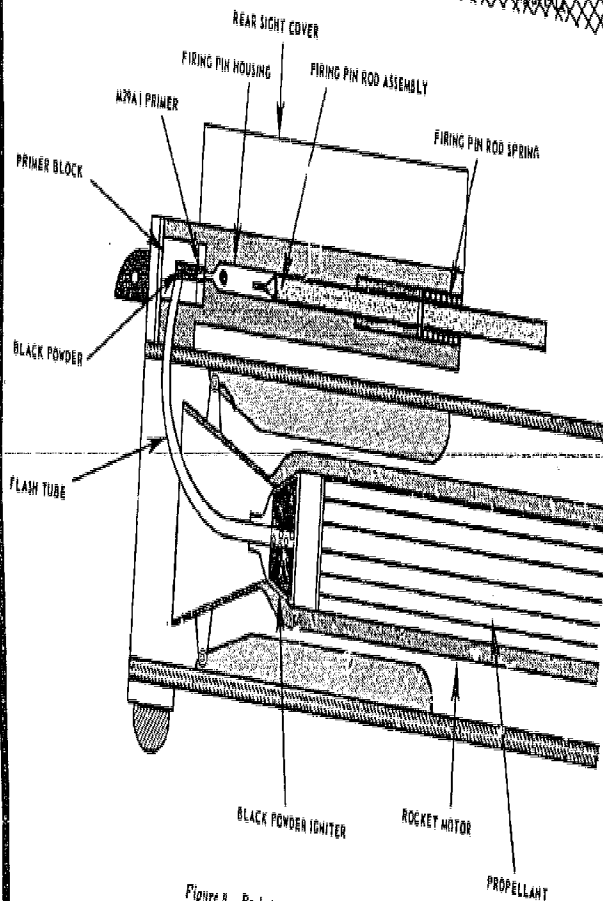

Figure 9. Rocket motor ignition system.
b. **Rocket Motor Ignition System.** The rocket motor ignition system (fig 9) for the M72A1/M72A1E1 is composed of the following elements: firing pin housing, firing pin rod and firing pin rod spring, M29A1 percussion primer, primer block with black powder flash charge, flash tube, and black powder igniter. The following sequence takes place as the unit is cocked and fixed: The firing pin rod spring is compressed as the inner tube is extended and locked into position (fig 9). When the trigger is actuated, the firing pin rod is released and strikes the center of the M29A1 primer with sufficient force to detonate the primer. The flash from the primer ignites the flash charge located directly behind the primer in the primer block. The ignited black powder generates a flash or flame which travels within the plastic flash tube to the igniter. The flame is dispersed within the igniter body through radial holes in the flash tube extension, igniting the black powder charge in the igniter. The thin plastic film which seals the front surface of the igniter is burned away, allowing the